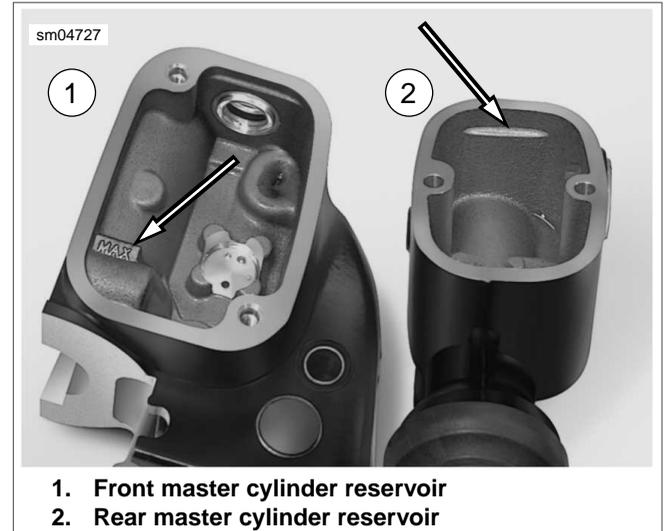

Figure 1-24. Brake Fluid Level
- See Figure 1-24. Add D.O.T. 4 BRAKE FLUID to master cylinder reservoir as follows: